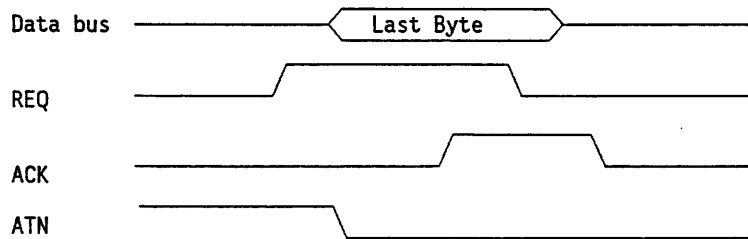

Fig. 4.3.3 ATN signal resetting in MESSAGE OUT phase
- b. On sending the last byte during execution of the MESSAGE OUT phase in hardware transfer mode. (See Figure 4.3.3.)